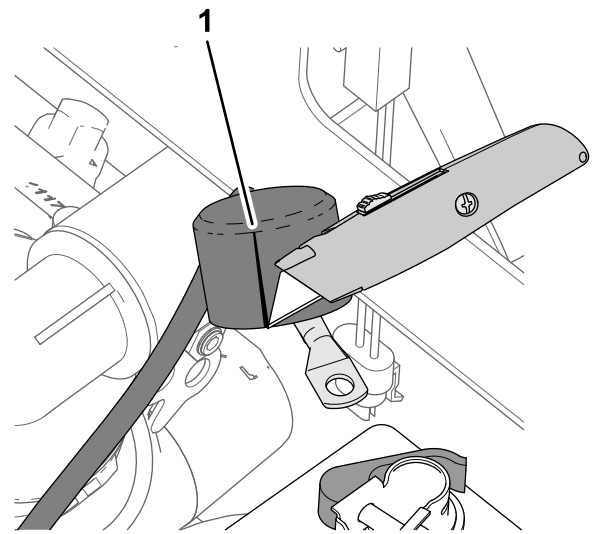

Figure 210
1. Slit the insulator cover of the positive battery cable to the starter as shown in Figure 210.